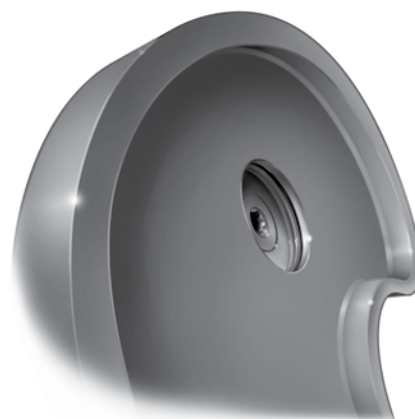

Figure 63
Step 4: Insert the **Optetrak Logic PTS Locking Screw** through the central hole of PTS. The screw will keep the mushroom feature on PTS engaged with the Optetrak Logic tibial tray. Using the **Optetrak Logic PTS Locking Hex Screwdriver**, tighten the screw (*Figure 62*). The PTS Locking Hex Screwdriver should be rotated until the screw is fully seated, or flush with the mushroom hole in PTS (*Figure 63*).